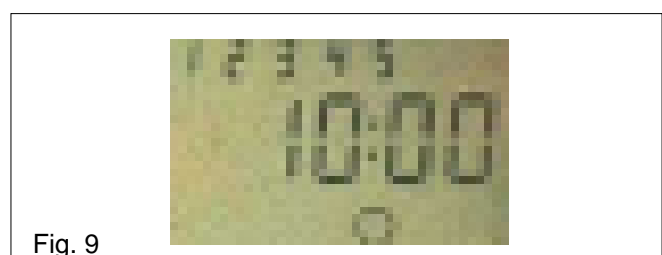

Fig. 9
- Press the Select button until the \circ symbol is shown (see fig. 9).